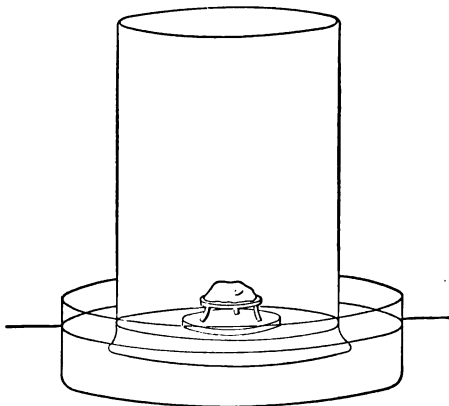

FIG. 16.
M. We will make the experiment. I put my tripod with powdered iron on a little floating board, light it, and cover it with a large glass, so placed that it stands on the bottom (Fig. 16). As the experiment is rather